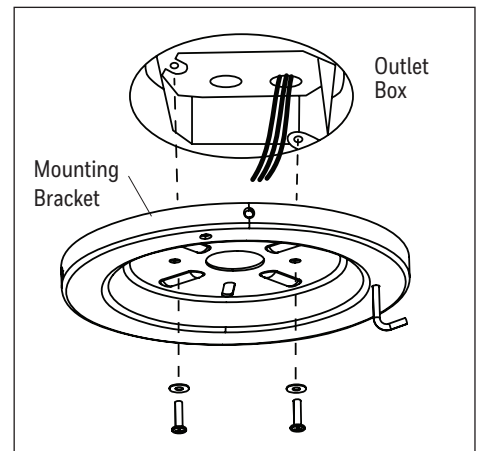

Figure 2.3
3. Install the mounting bracket to the outlet box (not included) using the screws and washers provided with the outlet box. **WARNING:** To reduce the risk of fire, electric shock, or personal injury, mount to the outlet box marked “acceptable for fan support” and use the mounting screws and washers provided with the outlet box (Figure 2.3).